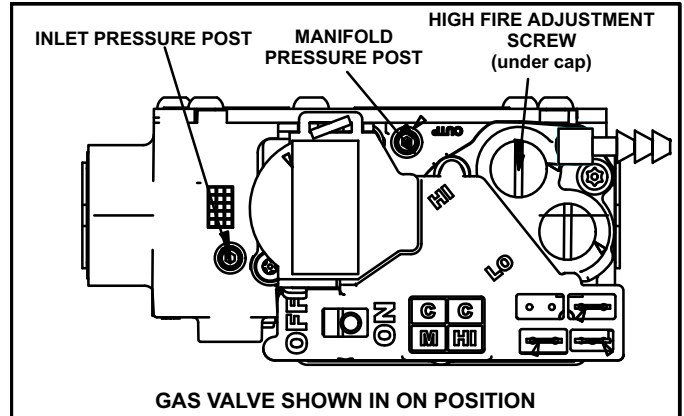

FIGURE 66
#### Gas Valve Operation (Figure 66)
- 6 - Move gas valve switch to **OFF**. See figure 66.
- 8 - Move gas valve switch to **ON**. See figure 66.
An inlet post located on the gas valve provides access to the supply pressure. See figure 66. Back out the 3/32 hex screw one turn, connect a piece of 5/16 tubing and connect to a manometer to measure supply pressure. See table 17 for supply line pressure.
A manifold pressure post located on the gas valve provides access to the manifold pressure. See figure 66. Back out the 3/32 hex screw one turn, connect a piece of 5/16 tubing and connect to a manometer to measure manifold pressure.
- 5 - If necessary, make adjustments. Figure 66 shows location of high fire and low fire adjustment screws.